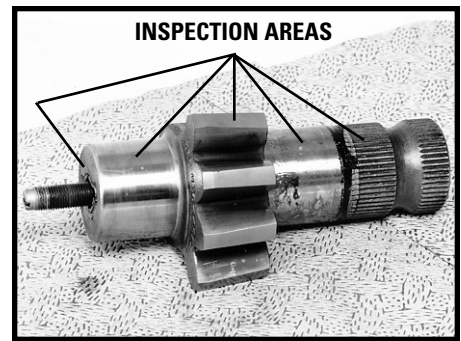

Figure 96
7. Inspect the sector shaft (48) bearing and sealing areas and sector teeth contact surfaces for brinelling or spalling. SEE FIGURE 96. Run your fingernail edge across these areas to detect steps. Inspect also for cracks. Remove any masking tape from the shaft serrations and inspect for twisted or otherwise damaged serrations. If any of these conditions exist, replace the sector shaft.